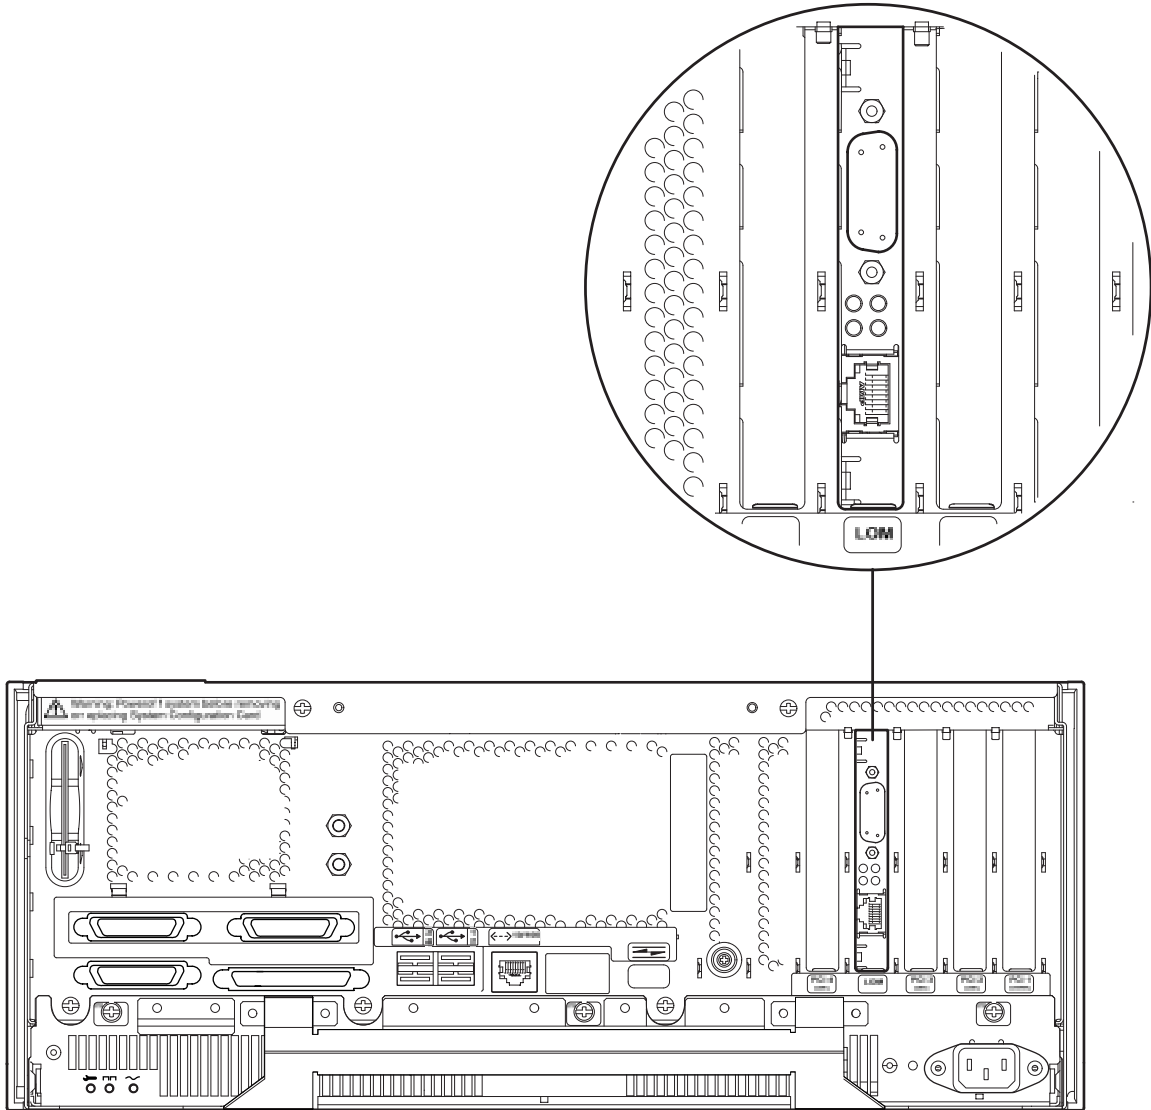

FIGURE 9-7 LOMlite2 Card
- 2. Locate the LOMlite2 card (see FIGURE 9-7).**
- 2. Locate the LOMlite2 slot on the motherboard (see FIGURE 9-7).**